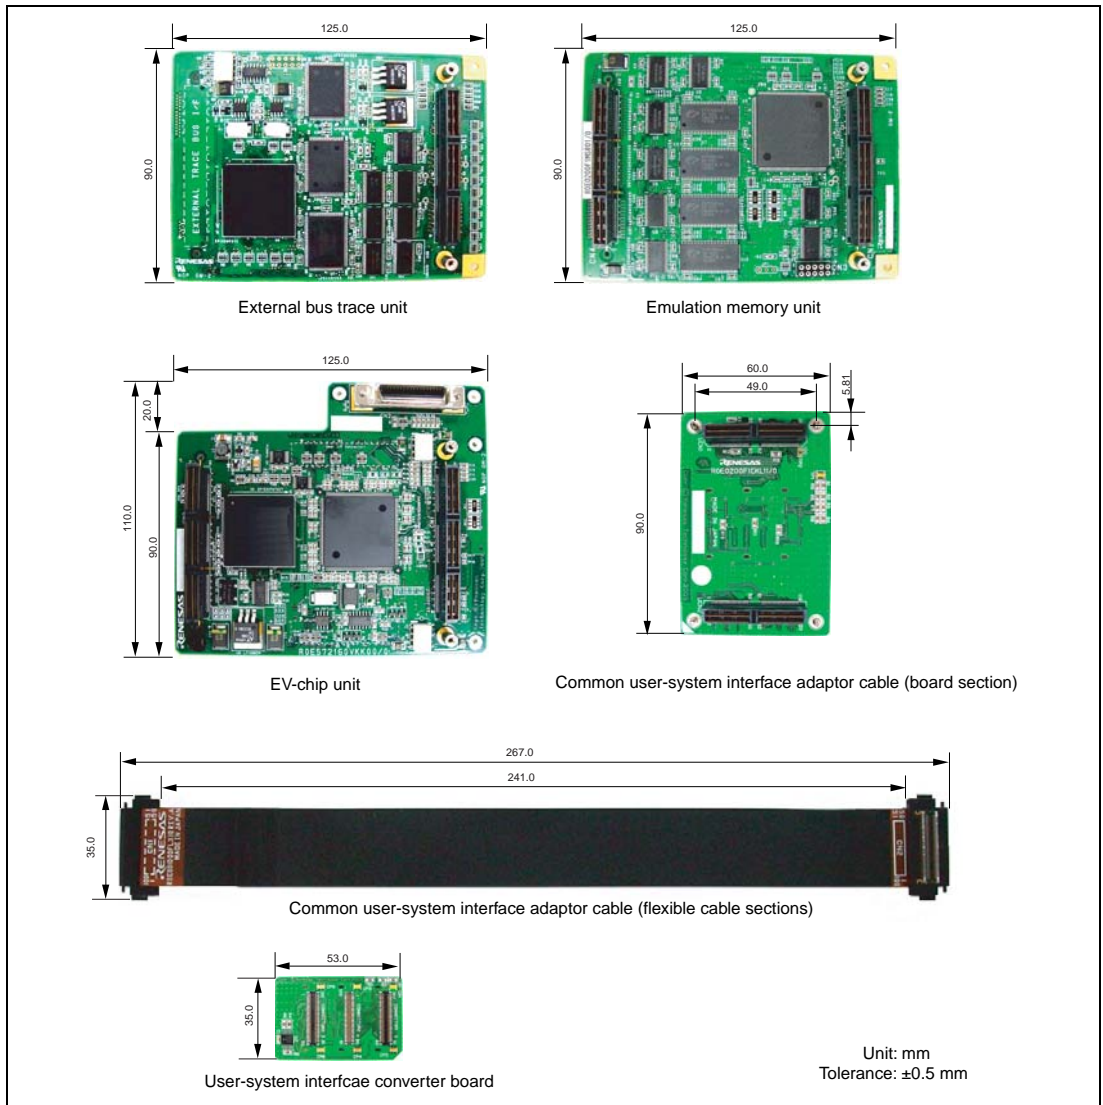

**Figure 10 Connecting the User System Interface Board to the EV-Chip Unit**
2. Align the connectors on the board with those on the EV-chip unit according to their numbers (figure 10).